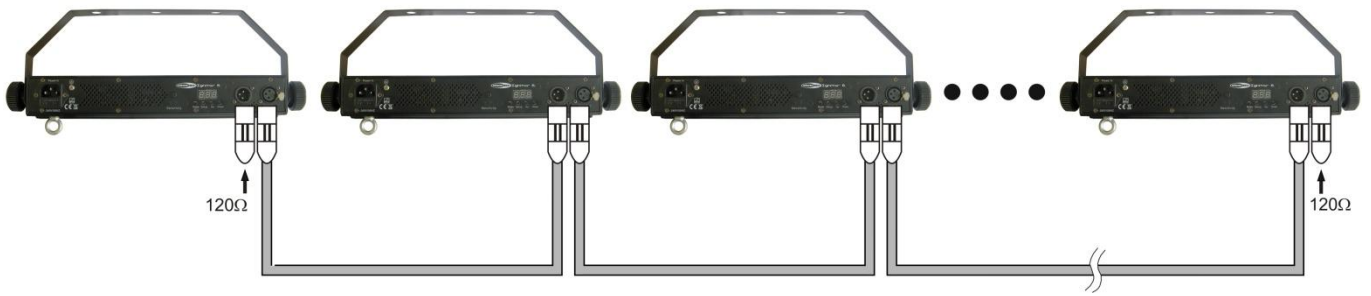

Fig. 3
3. Link the units as shown in (Fig. 3), Connect a DMX signal cable from the first unit's DMX "out" socket to the second unit's "in" socket. Repeat this process to link the second, third, and fourth units. You can use the same functions on the master device as described on page 12 (Brightness, Built-in Programs, Autorun or Music control Mode 1+2). This means on the master device you can set your desired operation Mode and all slave devices will react the same as the master device.